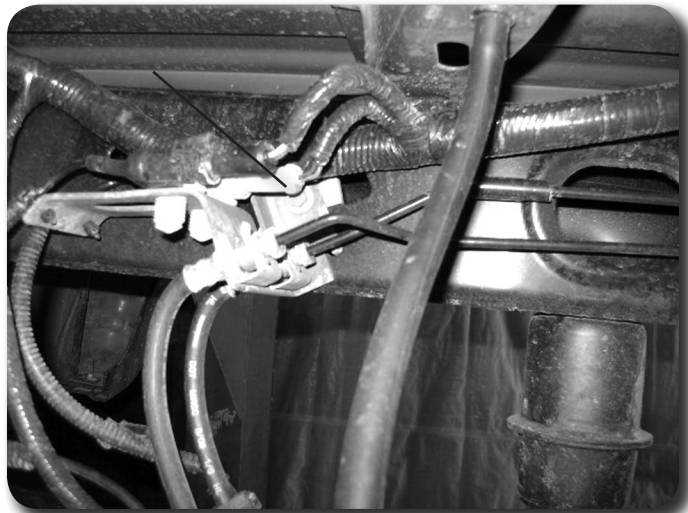

Figure 22
6. Disconnect the rear brake line from the frame. Figure 22